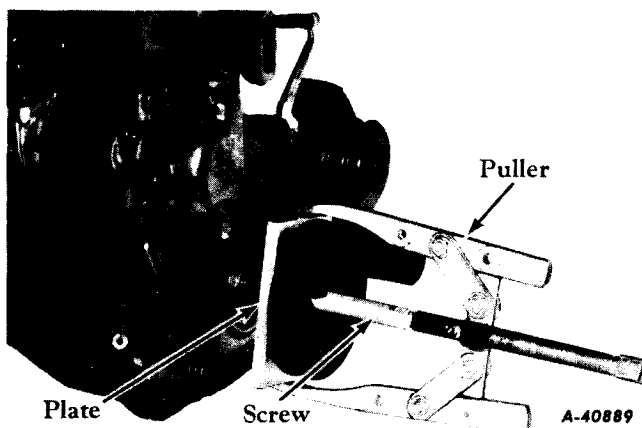

Fig. 1 - Pulling fan drive pulley (U-123 Shown).
4. Using a puller, remove the fan drive pulley (Fig. 1).
On the 1, 60, 2A, 123, 135, 135B, 146 and 153 series, use a puller and special tool FES 33-1 as shown in Fig. 1. Install the tool screw in the end of the crankshaft and the puller plate behind the pulley.